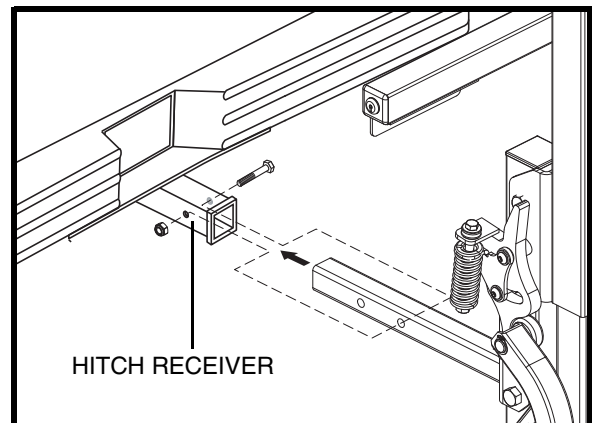

Figure 7. Lift Frame Vehicle Mounting
3. Slide the hitch tube into the vehicle hitch receiver, aligning the mounting hole closest to the lift with the mounting hole in the hitch receiver. See **figure 7**.
4. Secure the hitch tube with the supplied bolt and nut, inserting the bolt from the threaded side of the hitch tube. See **figure 7**.